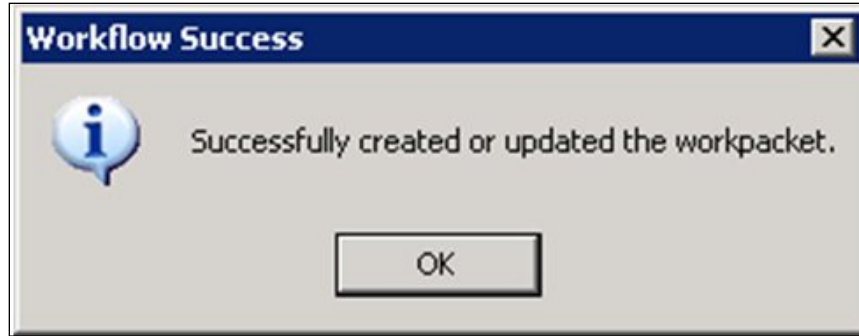

Figure 7-58: Workflow Success Message
17. Click the OK button. The Workflow Success Message is displayed (Figure 7-58).